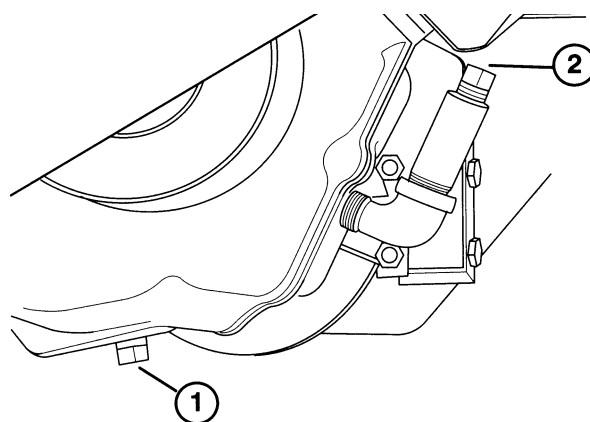

Figure 26
1. Place a drain pan below the drain plug on the axle. Clean the area around the drain plug (Fig. 26).
3. Remove the fill plug (Fig. 26) and pour approx. 1.89 l (64 oz.) of SAE E.P. 90 wt. oil into the extension tube. Stop when the oil level reaches the top of the tube.